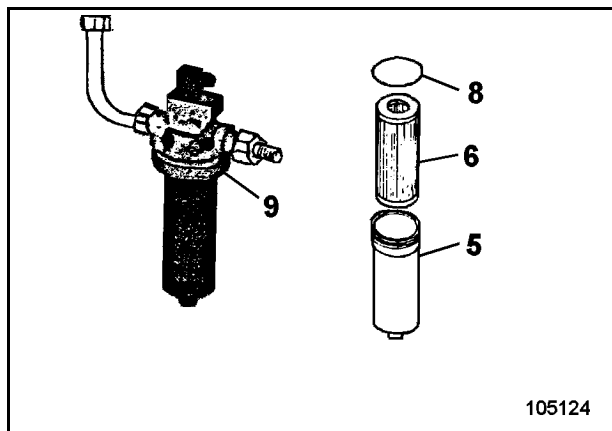

Fig. 3-92:
Each of the control circuits is equipped with a high-pressure filter (Fig. 3-92:).
- Unscrew filter housing (5, Fig. 3-92:).
- Withdraw filter element (6) from filter housing (5).
- Clean filter housing (5) and the sealing face at the filter head (9) with white spirit or paraffin oil.
- Insert new filter element into filter housing (5) and refit to the filter head with new, lightly oiled sealing ring (8).